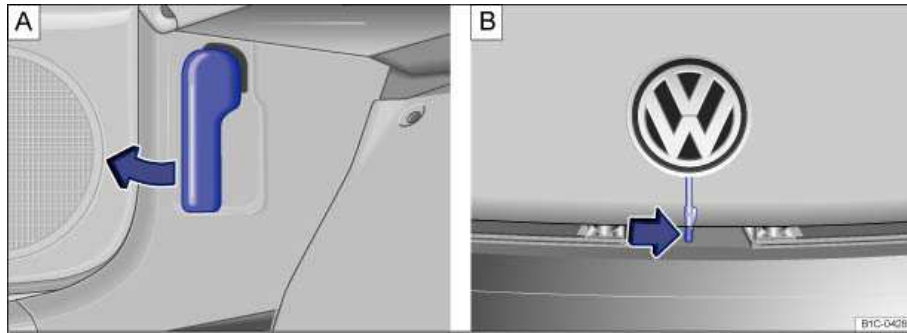

Fig. 140 A: In the footwell on the driver side: Inside engine hood release lever. B: Above the radiator grille: Outside engine hood release.
- Open the driver door and pull the inside hood release lever in the direction of the arrow ⇒ fig. 140 A. The engine hood is released from its latch by a spring ⇒ ⚠.
- Push the outside hood release lever ⇒ fig. 140 B (arrow) and lift the hood all the way up.